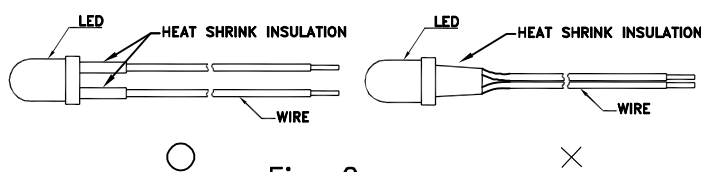

Fig. 2
2. When soldering wire to the LED, use individual heat-shrink tubing to insulate the exposed leads to prevent accidental contact short-circuit. (Fig. 2)
(Fig. 2)